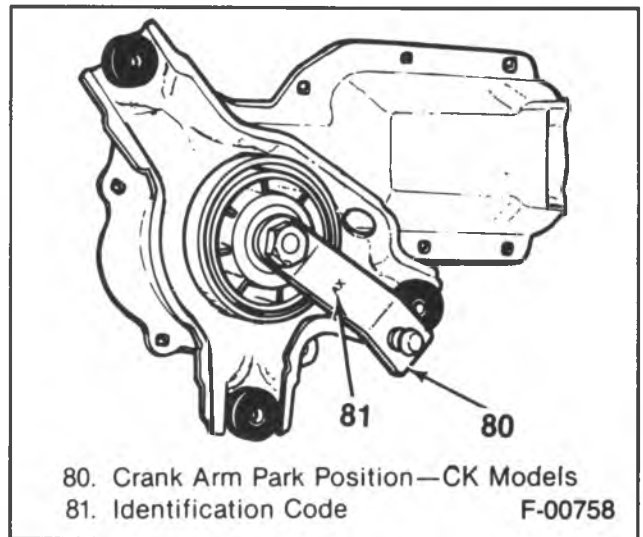

Figure 50 — Crank Arm Position — R/V Models
1. Spacer (73).
2. Shaft seal (72).
3. Crank arm (70).
- Install the crank arm according to figure 50 or 51, depending on the vehicle model.
4. Crank arm retaining nut (71).